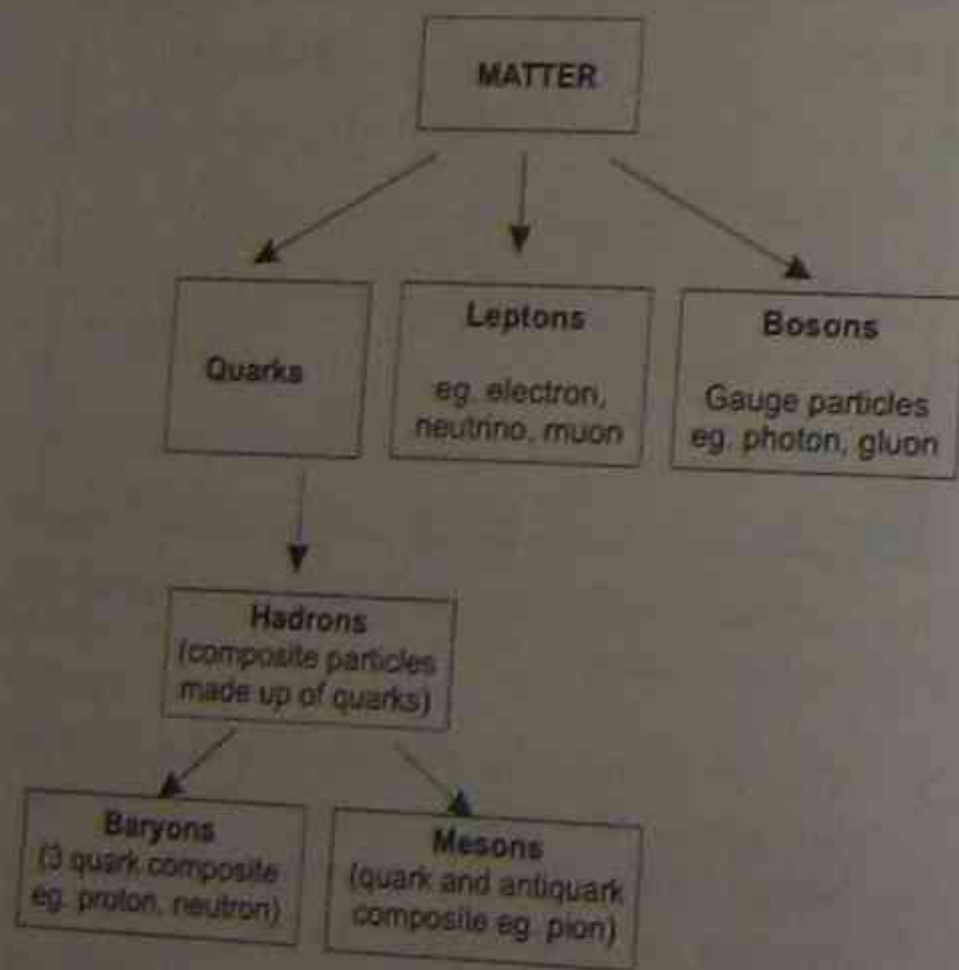

Figure 6.30 Families of matter
- The electroweak theory*—first proposed in 1968 by Steven Weinberg, Sheldon Glashow and Abdus Salam. This describes interactions through the electromagnetic and weak forces. It proposes that the weak nuclear force is mediated by three bosons (Figure 6.30) called W^+ , W^- and Z just as the electromagnetic force is mediated by the photon.
Physicists currently view matter as being grouped into three families—*quarks*, *leptons* and *bosons* (Figure 6.30).